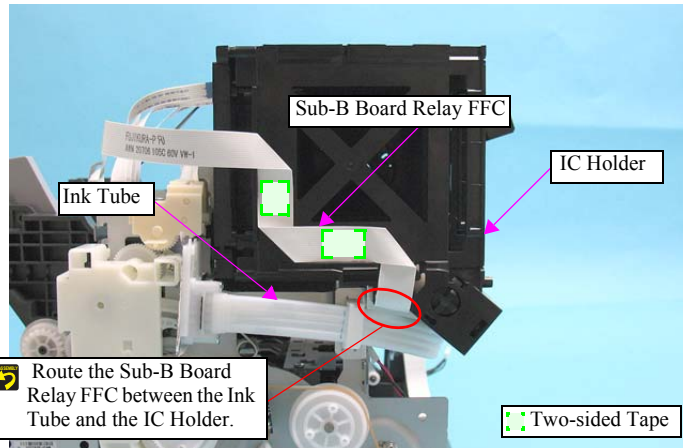

Figure 4-90. Assembling the IC Holder Assy (4)
- As shown in Figure.4-90, secure the Sub-B Board Relay FFC to the IC Holder with two-sided tapes.